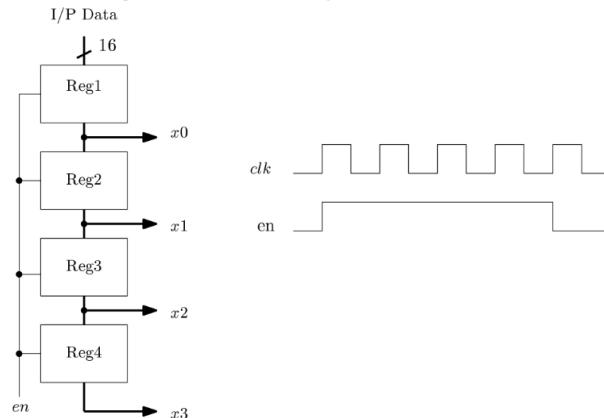

Fig. 4: Architecture for Serial to Parallel Conversion
- 2. Serial to Parallel Conversion:** The S2P block is shown in Fig. 4. for 4 data samples. This block has 4-registers of 16-bit width. Each register is controlled by a control enable pin. The input data flows to the output only when enable (en) signal is high. Timing diagram is also shown. The registers make the serial data into parallel in 4-clock cycles. For 8 data samples there will be 8-registers and it will take 8-clock cycles.